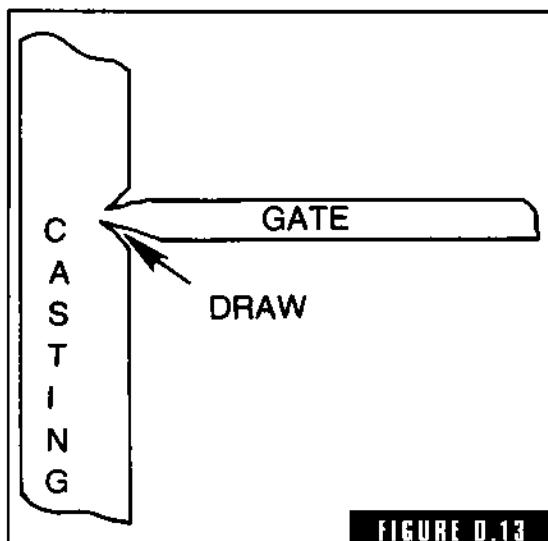

FIGURE D.13
**draws** A shrinkage or draw at the point where the gate joins the casting (Fig. D-13). A common form of defect on chunky yellow brass castings. By adjusting the gating and filleting, it can usually be overcome.